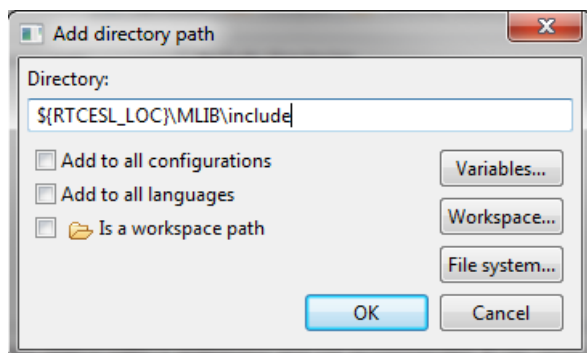

Figure 1-21. Library include path addition
20. Click the Add... button on the right, and a dialog appears. See Figure 1-21.